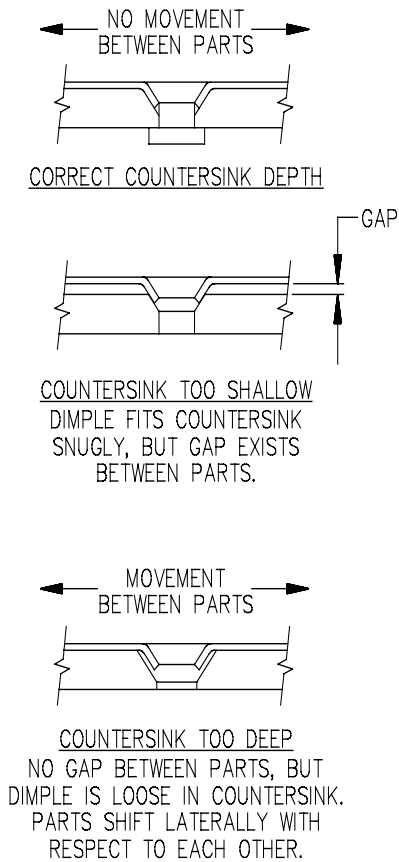

Figure 15: Countersink Adjustment
- C)** Fit the dimple formed in Step A into the countersink formed in Step B, and check the fit. If, when the dimple is pressed tightly into the countersink, the two pieces are held apart so that a gap exists between them, the countersink is too shallow. Refer to Figure 15. If the pieces fit tightly together without gaps but the dimple is loose in the countersink so that the pieces can shift laterally relative to each other, the countersink is too deep. If the dimple fits snugly in the countersink and the parts fit tightly together without gaps, the countersink depth is just right.